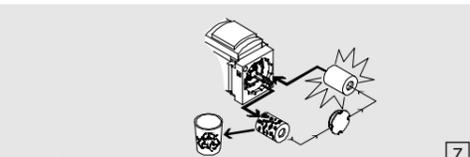

Bild 5/Fig. 5
6. Replace the filter cartridge if the pores are dirty (→ Fig. 5). Grasp the new filter cartridge only at the lower end. A support span is fitted in the new 5 µm filter cartridge.